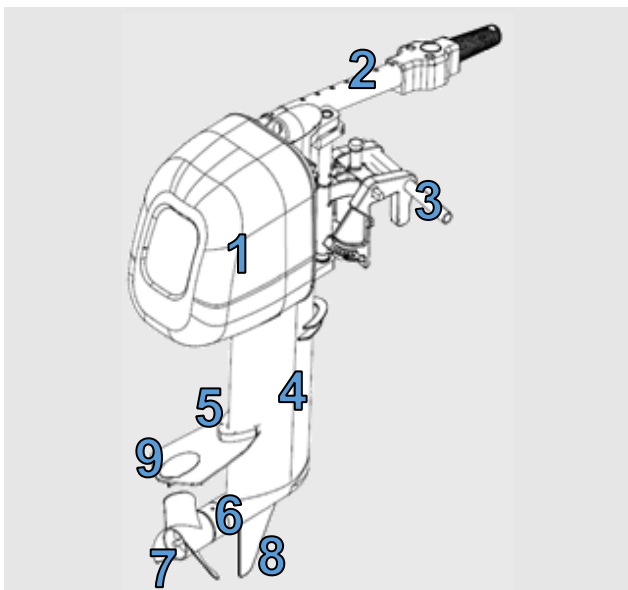

Figure 2: Tiller Controlled Outboard
- Remove the engine cowl from the outboard motor. (**Figure 2**)